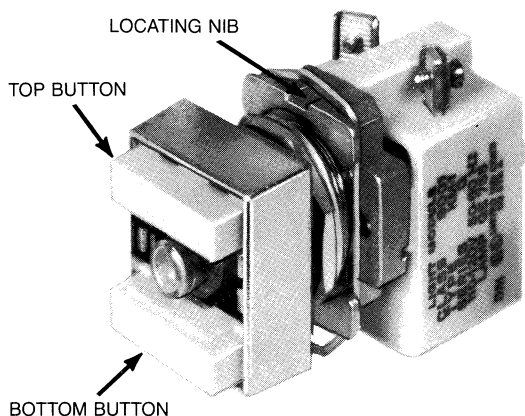

FIGURE 4
- g. Line up the button cover with the top button of the operator (with the nib of the operator UP) as shown in Figure 4 and push together until the cover is securely held by the operator.